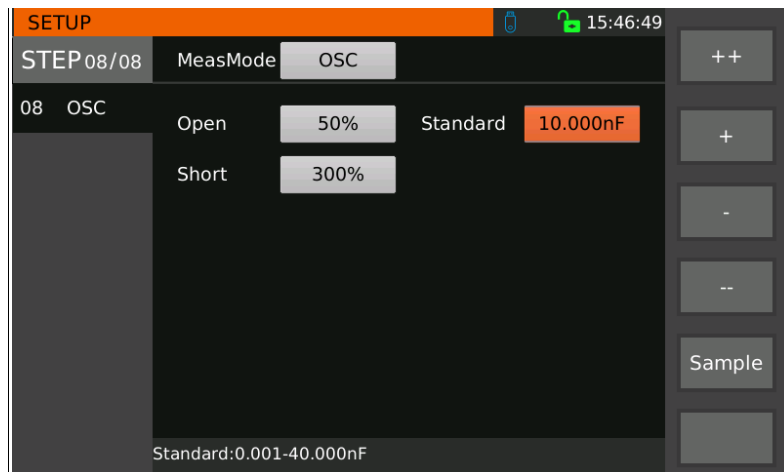

Figure 3-35 Sampling Standard Settings
**Sampling standard:** Move the cursor to the sampling standard, as shown in Figure 3-35. You can input the standard value by numeric keys and confirm it by pressing **[ENTER]**. You can also press **[sampling]** key in the figure for sampling. After pressing the sampling key, the instrument enters the standard value sampling state, the instrument outputs 100V AC signal with frequency 600HZ when sampling and obtains the current flowing through the measured part in 1s. (Sampling voltage output, pay attention to safety). The capacitance value displayed by the instrument is not the actual capacitance value, but the value of the sampled current after impedance conversion, which should be approximated with the actual capacitance value installed between the test terminals.